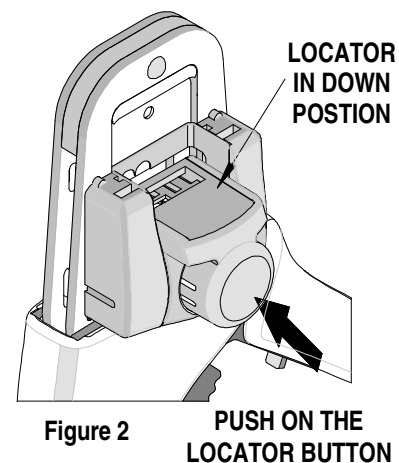

Figure 2
2. Make sure the center of the locator is in the down position. With the locator attached, push the locator button on the back of the hand tool to bring the locator forward through the tooling. See Figure 2.